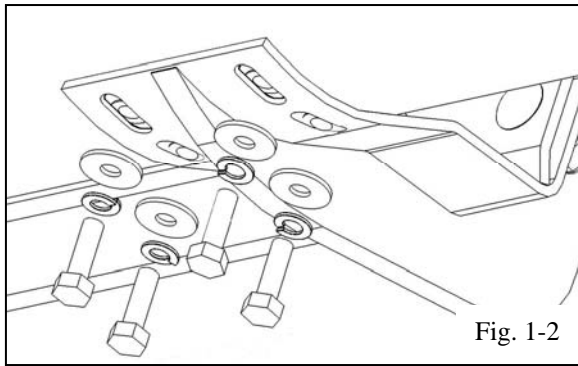

Fig. 1-2
- (d) Attach the tube step to the bracket rail at each mounting location using (4) M6 bolts, lock washers and washers. (Fig 1-2)